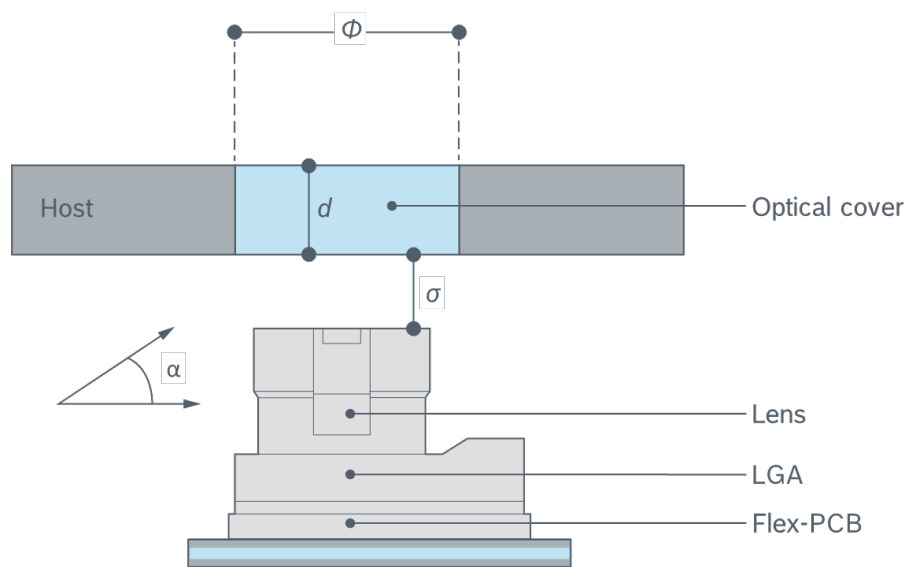

Figure 22: Optical interface
- Figure 22 and Table 9 show the mechanical requirements of the optical interface